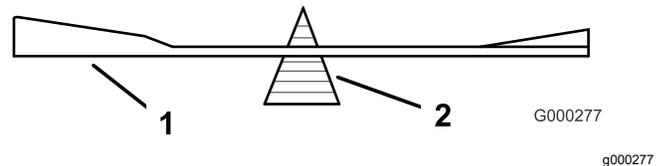

Figure 111
2. Check the balance of the blade by putting it on a blade balancer (Figure 111).